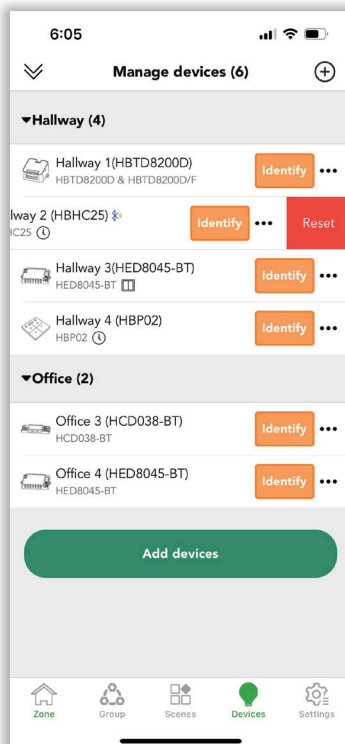

Figure 7.6 Reset-1
1. Users can select the device which they would like to reset and slide to the left side to “reset” (see figure 7.6).